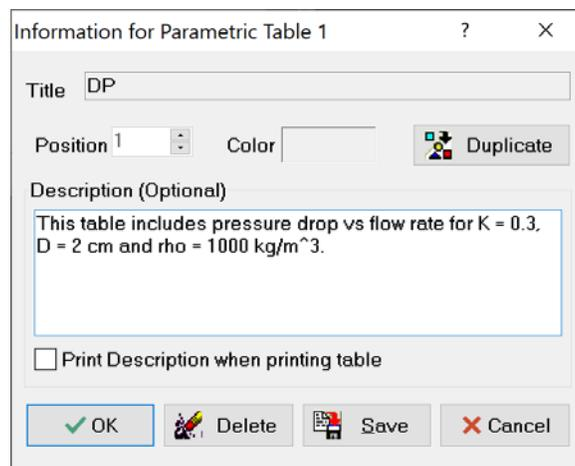
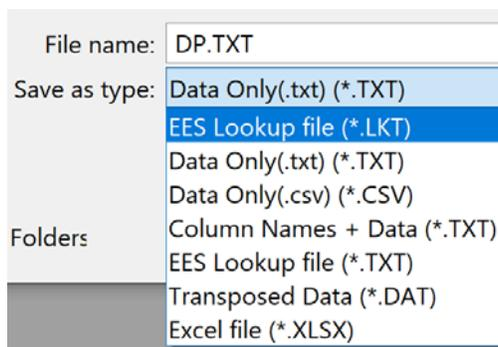

Figure 1-41: Information for Parametric Table dialog.
Figure 1-42: Formats available for saving Parametric Tables.
The Parametric Table can be renamed and annotated. Right click on the tab corresponding to the table in order to bring up the Information for Parametric Table dialog, shown in Figure 1-41. Provide a descriptive name in the Title field (DP) and record the details of the calculation in the Description panel. The description can optionally be printed with the table.
The Parametric Table is automatically saved with the EES program and reloaded when the program is reopened. However, you can also save your Parametric Table independently by selecting Save in the Information for Parametric Table dialog (Figure 1-41). There are a number of different formats available for you to save your table, these are accessed by selecting the Save as type option as shown in Figure 1-42.
Parametric tables are saved with an EES file. They can also be saved independently as explained in the previous section. A Parametric table can be deleted in two ways. One way is to right-click on the table's tab to bring up the dialog window shown in Figure 1-41 and click the Delete button. A second way to delete one or more Parametric tables is the Delete Parametric Tables command in the Tables menu. Selecting this command will bring up the dialog window shown in Figure 1-43 which lists all Parametric tables. Check off the tables that are to be deleted and then click the Delete button. Note that deleting the Parametric table means that the data that it contains will not be saved with the EES file the next time the EES file is saved. However, the